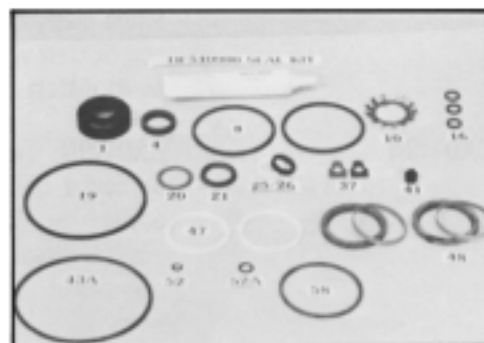

Figure 99
- Ross Gear does provide individual seals, seal rings, as well as complete and partial seal kits. SEE FIGURE 99. These parts should be available through most OEM parts distributors. (Contact your local dealer for availability.)